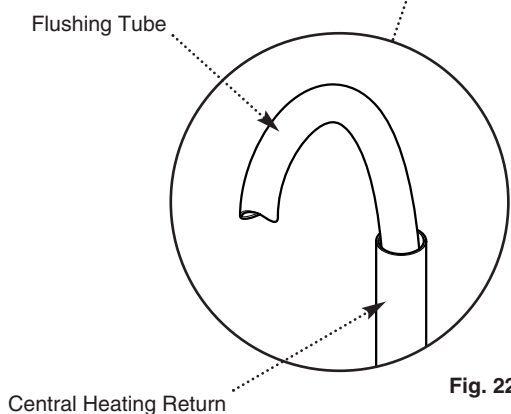

Fig. 22
1. Insert a tube into the central heating flow or return pipe (Fig. 22).